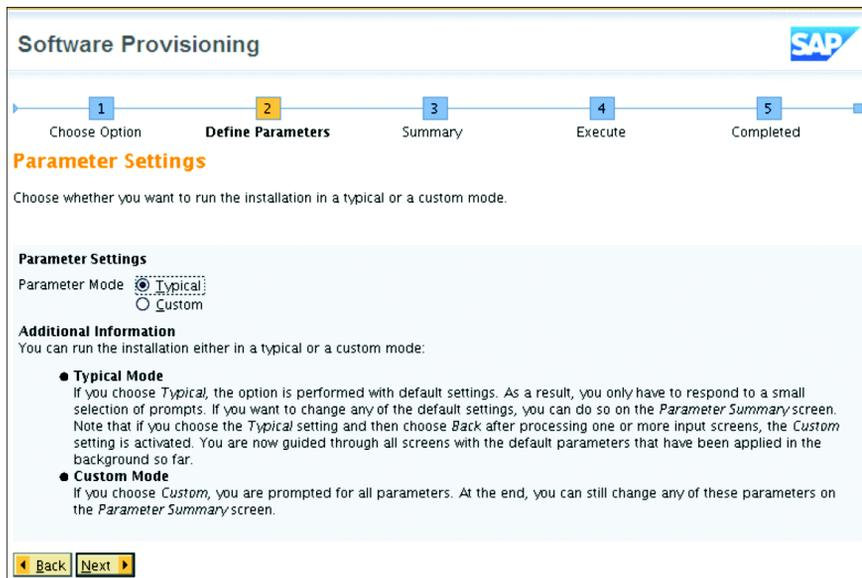

Figure 85 Typical or Custom Parameter Settings
4. You can allow SWPM to make some of the decisions for you by selecting TYPICAL or make all the more complex decisions yourself by selecting CUSTOM. We selected TYPICAL (see Figure 85). Make your selection and continue.
3. As shown in Figure 85, the next step provides you with the option for a TYPICAL or CUSTOM approach (automatic or manual). We are using TYPICAL. Make your selection and click NEXT.
4. As shown in Figure 85, the next step provides you with the option for a TYPICAL or CUSTOM approach (automatic or manual). We are using TYPICAL. Make your selection and click NEXT.